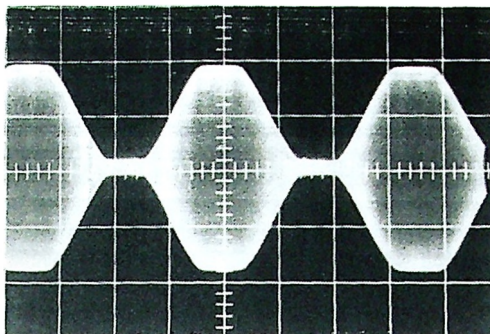
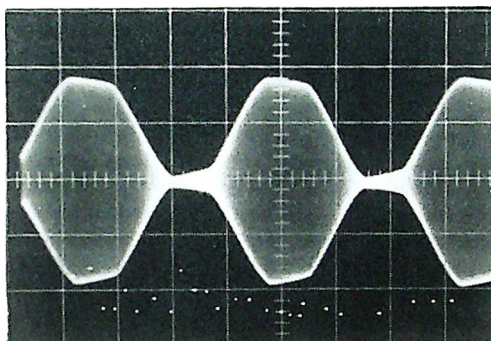
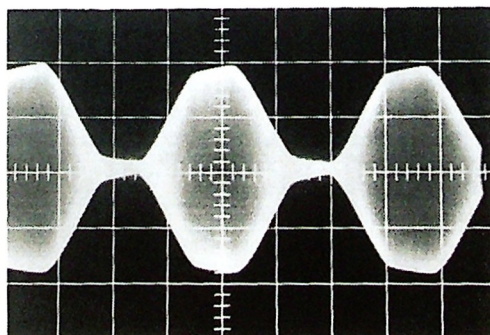

FIGURE 2-7 NORMAL MODULATION ENVELOPE
FIGURE 2-8 UNDER-CORRECTED MODULATION ENVELOPE
FIGURE 2-9 OVER-CORRECTED MODULATION ENVELOPE
NOTE: If the modulation envelope as viewed on the oscilloscope appears as in Figure 2-7, no tilt correction is necessary and the following procedure should not be performed.
7. If tilt is present as shown in Figure 2-8, enable the tilt correct circuitry by rotating the front panel **TILT CORRECT** potentiometer until it just 'clicks' on.
8. If tilt is present, as shown in Figure 2-8, adjust the **TILT CORRECT** control to obtain a waveform similar to Figure 2-7. Over-correction will resemble Figure 2-9 and cause poor performance. Turn **TILT CORRECT** control counter-clockwise to correct.
5. As viewed on the oscilloscope, it should be noted if bass notes clip in a similar tilted manner as shown in the photo of Figure 2-8. If this is the case, proceed to step 6. If the clipped bass information appears similar to Figure 2-7, no correction is necessary.
7. Adjust the PMC front panel **TILT CORRECT** control such that bass clipping is horizontal (as in Figure 2-7). The trace should be studied for several minutes as the adjustment is made to verify that the majority of low frequency tilt is removed.